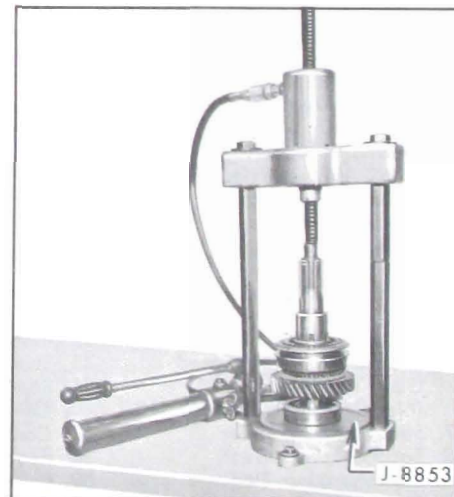

Figure 4-136—Installing Rear Bearing Using J-8853
4. Using J-8853, press on the rear bearing with the snap ring groove toward the front of the transmission (see Figure 4-136). Firmly seat bearing against the shoulder on the mainshaft.